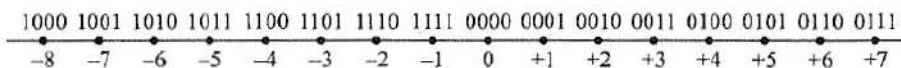

Fig. 6.2 Representing decimal numbers as 2's complements
- "Before" and "after" are synonymous with "negative" and "positive." Figure 6.2 illustrates with this idea the number line of basic algebra: 0 marks the origin, positive numbers are on the right, and negative numbers are on the left.
- The odometer readings in Fig. 6.2 demonstrate how positive and negative numbers are stored in a typical microcomputer.
- Second, the negative numbers in Fig. 6.2 are the 2's Complements positive of the numbers, as you can see in the following: